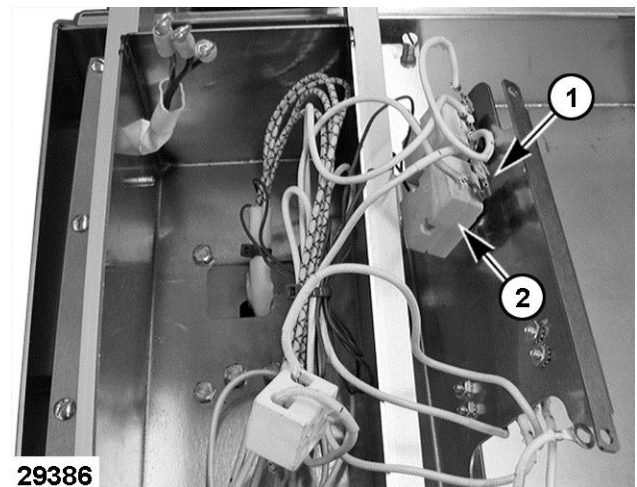

Fig. 20
2. Note wire locations (1, Fig. 20) and disconnect from high limit (2, Fig. 20).